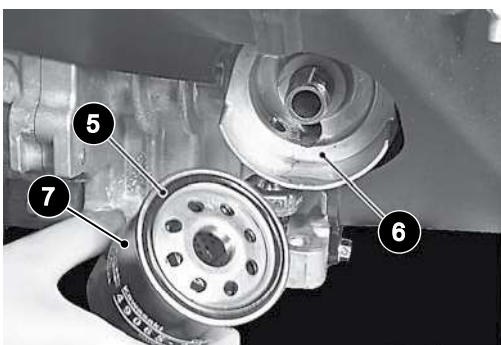

Figure 7 Inspect Oil Filter
The O-ring (5) may have remained on engine (6) or filter (7) (Figure 7). If the O-ring (5) remained on the engine surface (6), remove it and discard with the filter (7).